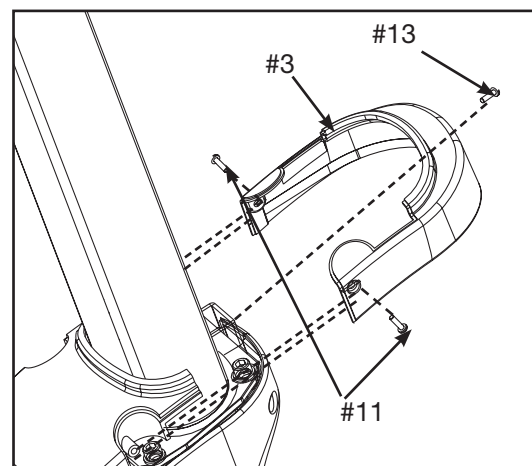

Figure 7
- A.** Locate and place front cap (#3) on the front of the unit as shown in Figure 7.